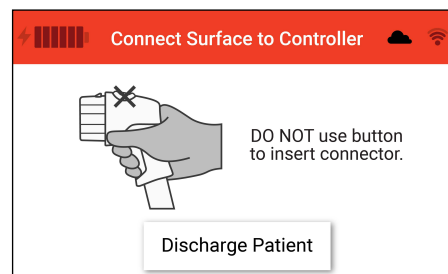

Figure 24. Support Surface disconnected alert screen
1. If the support surface is disconnected while running, an auditory alert will sound for five (5) seconds and an alert screen will appear. (Fig. 24) Reconnect the support surface into the front of the controller to dismiss the prompt. Do not use the button to insert the connector. Push until there is a click.
2. If the support surface disconnected alert is not addressed, an auditory alert will occur for five (5) seconds every hour that the alert is active.